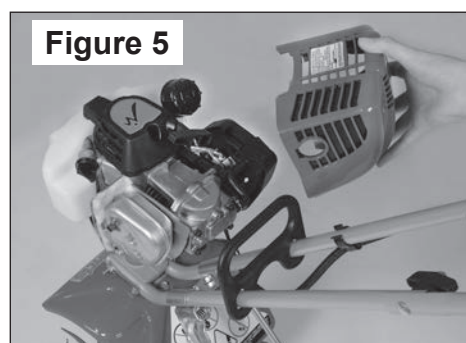

Figure 5
1. Remove the engine cover (Figure 5)